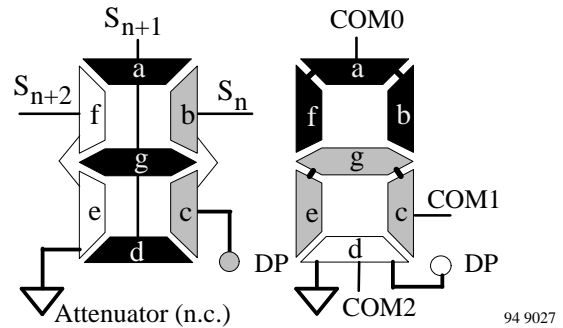

Figure 38. 3:1 multiplex 7 segment digit
- Switch on all segments of the leading 7 segment digit (including the attenuator, see figure 38) with a complete LCD display update
Figure 38 shows the connection of a 3:1 multiplex  $6^{3/4}$  digit LCD panel having the numeric display pattern shown in figure 39, the segment outputs (S01-S20), and the backplane outputs (COM0-COM2).